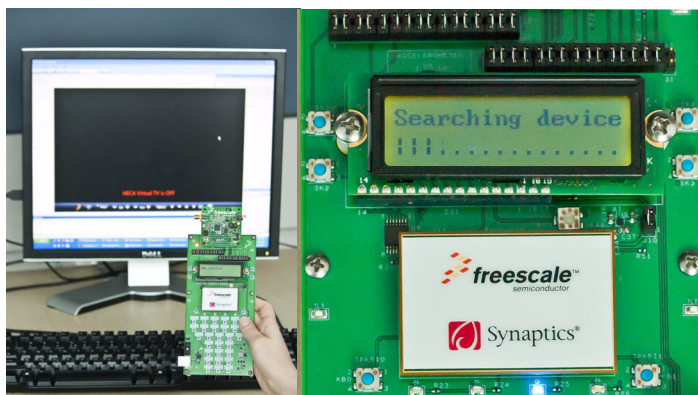

Figure 8. Initiating Push Button Pairing on 1323x-RCM
13. Initiate the RF4CE ZRC Push Button Pairing (PBP) on the 1323x-RCM by pressing and holding the SW18 (“Pair”) on the 1323x-RCM until the “Searching Device” message appears on the LCD. The LCD display shows a progress bar (Figure 8) while searching for a device to respond to the pairing
5. Initiate the RF4CE ZRC Push Button Pairing (PBP) on the 1323x-RCM by holding the SW18 (“Pair”) on the 1323x-RCM until the “Searching Device” message appears on the LCD. The LCD shows a progress bar while searching for a device to respond to the pairing as shown in Figure 8.
6. Initiate the RF4CE ZRC Push Button Pairing (PBP) on the 1323x-RCM by holding the SW18 (“Pair”) on the 1323x-RCM until the “Searching Device” message appears on the LCD. The LCD shows a progress bar while searching for a device to respond to the pairing as shown in Figure 8.